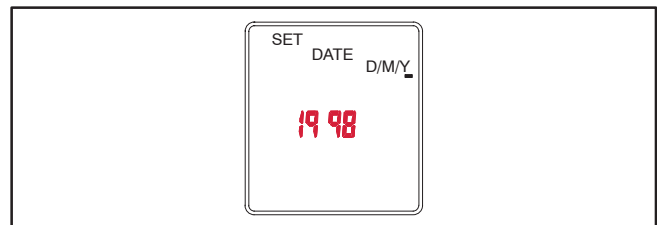

FIGURE 6. SETTING THE YEAR
- 2.. Press the selector button (⤴) to select **DATE** and then press the **OK** button. The current year is displayed flashing and D/M/Y is displayed with the “Y” underlined (see Figure 6).